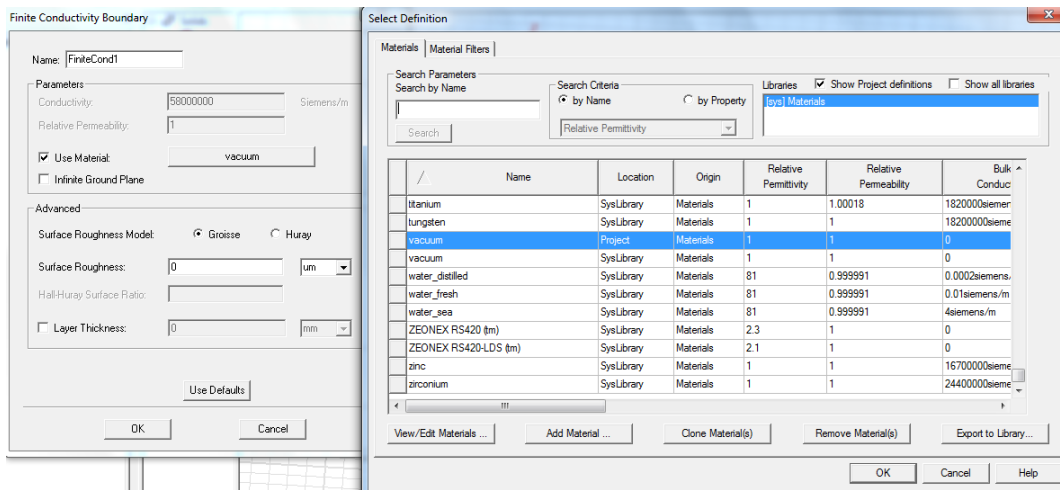

Figure 5: Specifying the finite conductivity boundary. A material can be selected from the built-in library.
Using the 3D Modeler, specify the geometry and material properties (HFSS comes with a materials library - visible in Figure 5 - with properties like permittivity, permeability, conductivity, etc.) of the structure.
- FINITE CONDUCTIVITY: imperfect conductor, specify as in Figure 5.